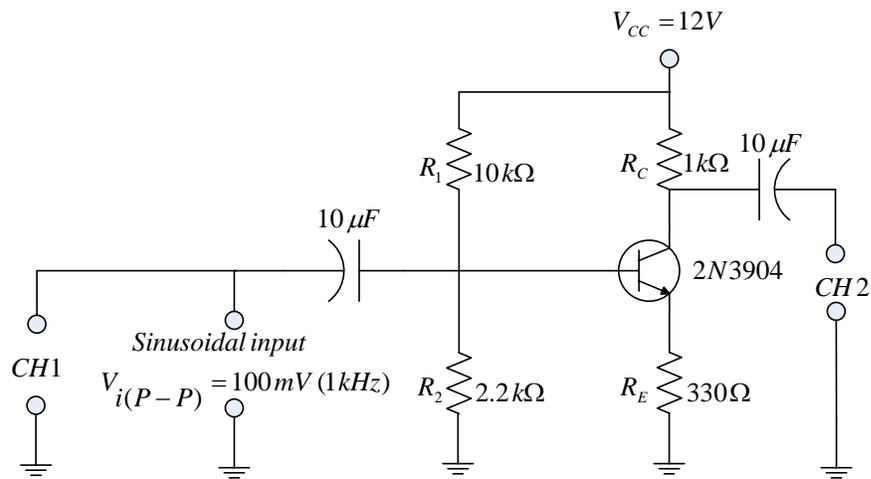

Fig 9.3 Common Emitter Amplifier Circuit
3. Connect circuit as shown in Fig 9.3 disconnect all capacitors and measure DC Voltages